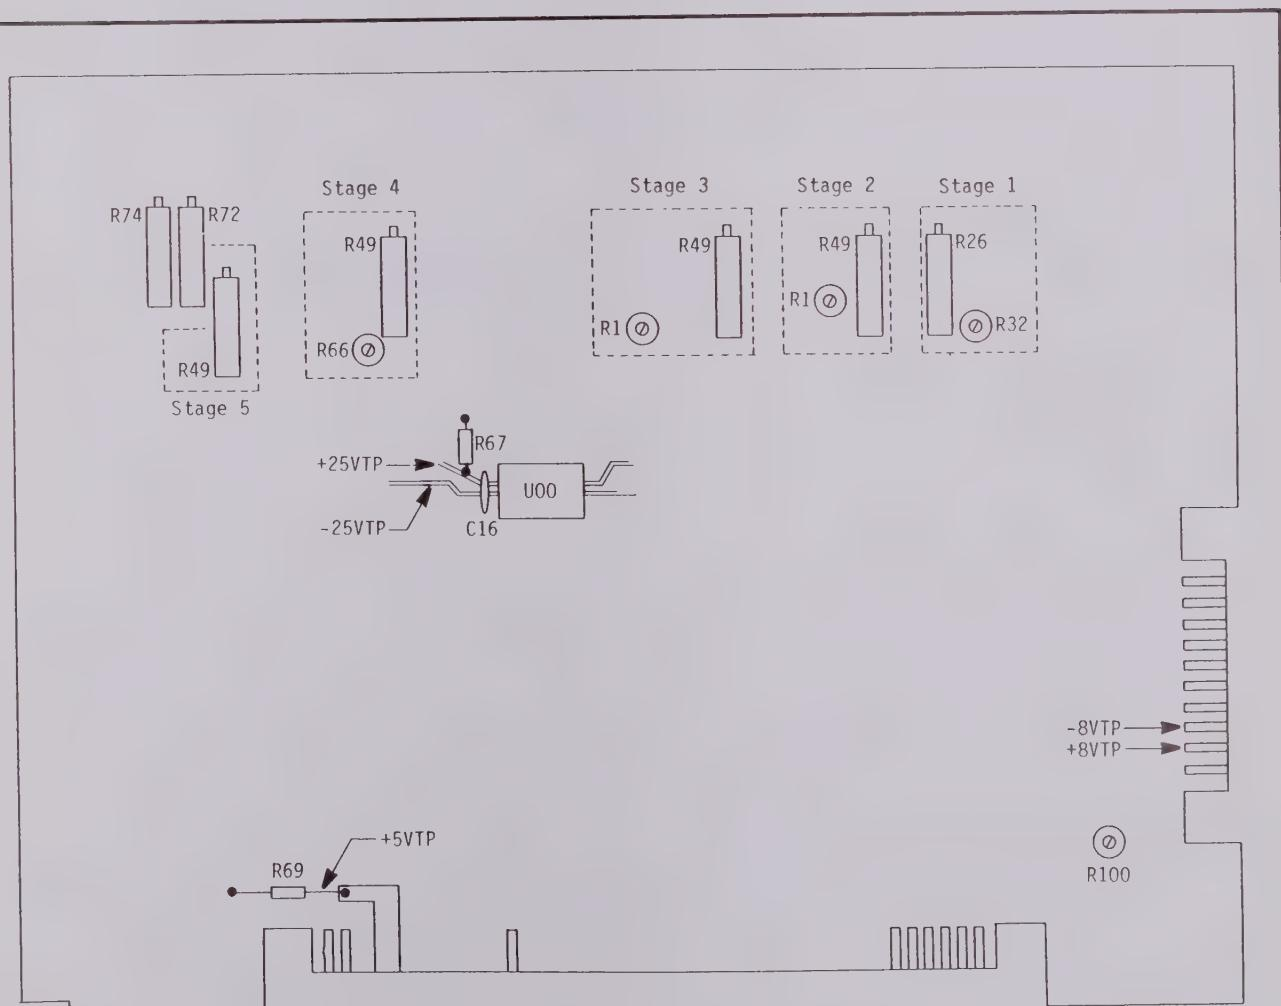

Figure 4 - Model 206 "ADC" Board
2. Connect the multimeter to the +5VTP. (See Figure 4)
4. Connect the multimeter to +25VTP. (See Figure 4)
5. Connect the multimeter to -25VTP. (See Figure 4)
7. Connect the multimeter to +8VTP. (See Figure 4)
8. Connect the multimeter to -8VTP. (See Figure 4)
- a. Adjust R100 for a reading equal to the magnitude of the +8 VDC recorded in Step 7,  $\pm$  1%. (See Figure 4)
2. Slowly adjust the Stage 4 - R66 trimpot (Figure 4) until a separation appears on the waveform.
2. Slowly adjust the Stage 5 - R49 trimpot (Figure 4) until a separation appears on the waveform.